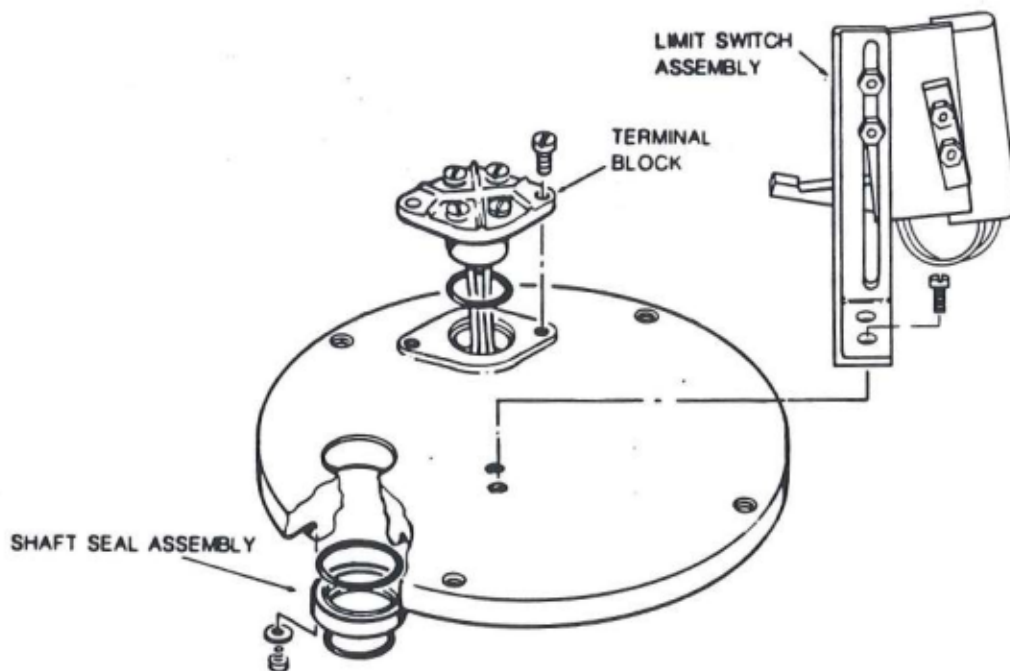

Figure 5-10. Control Plate Assembly
- 5). Install the Control Plate Removal Clamp (P/N S109795F) with the same screws removed from the limit switch post (see Figure 5-10).
- 6). Remove the four 1/4" hex head screws (605) that hold the control plate (606) to the housing (625).